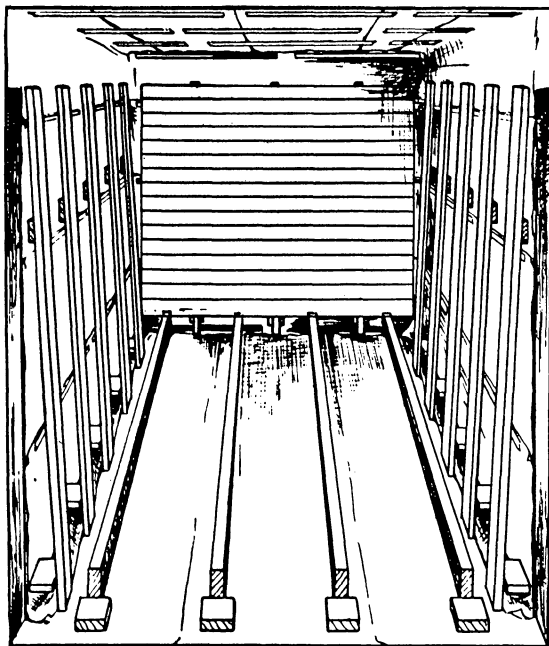

FIG. 8.—First layer of false end wall boards.
9. Nail 8-foot lengths of the 1-inch boards to the studding at the end of the car. (Fig. 8.) These boards should form a solid, tight false wall from the floor stringers to the top of the studding.